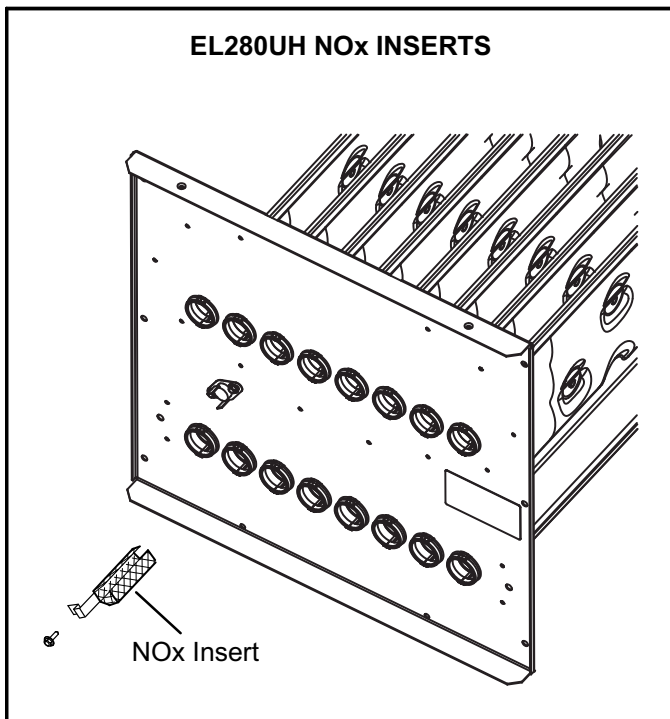

FIGURE 37
- 8 - **NOX units only** - Remove screw securing NOX insert. Remove NOX insert. See figure 37.